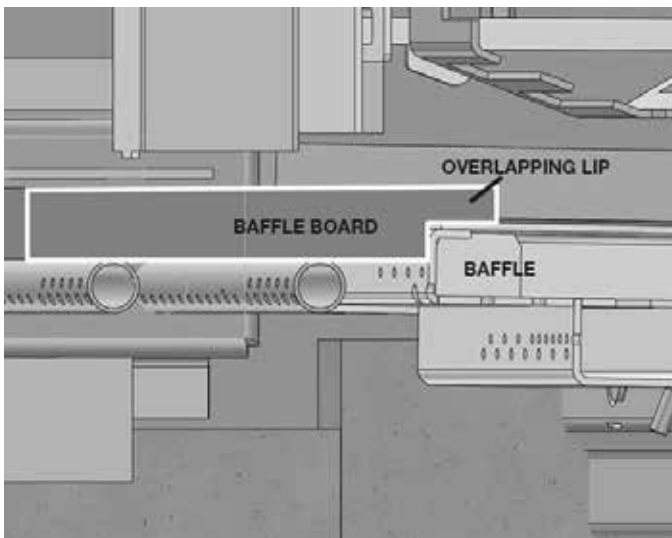

Figure 1: Baffle board placement.
7. Re-install baffle assembly in reverse order. The two side pieces of blanket insulation must be tight against the side rails. The Ceramic Board on top of the tubes must be pushed back tight against the Baffle so the lip extends over the top of the baffle. See "Figure 1: Baffle board placement." on page 12
3. Slide the baffle board above the baffle tubes and under the retaining tabs on the baffle air boxes. Ensure the rear overlapping lip is up and towards the back. Figure 1 **Caution - Baffle Board material is very fragile.**